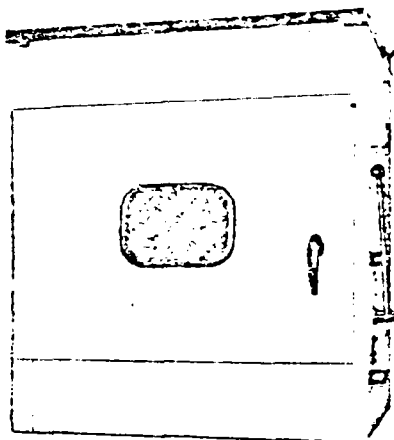
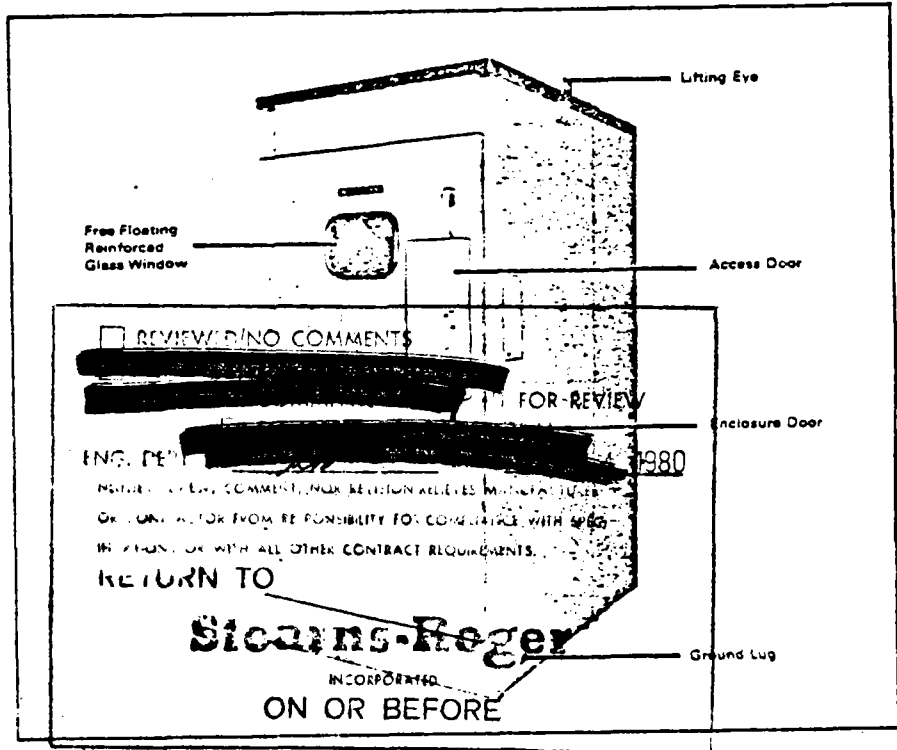
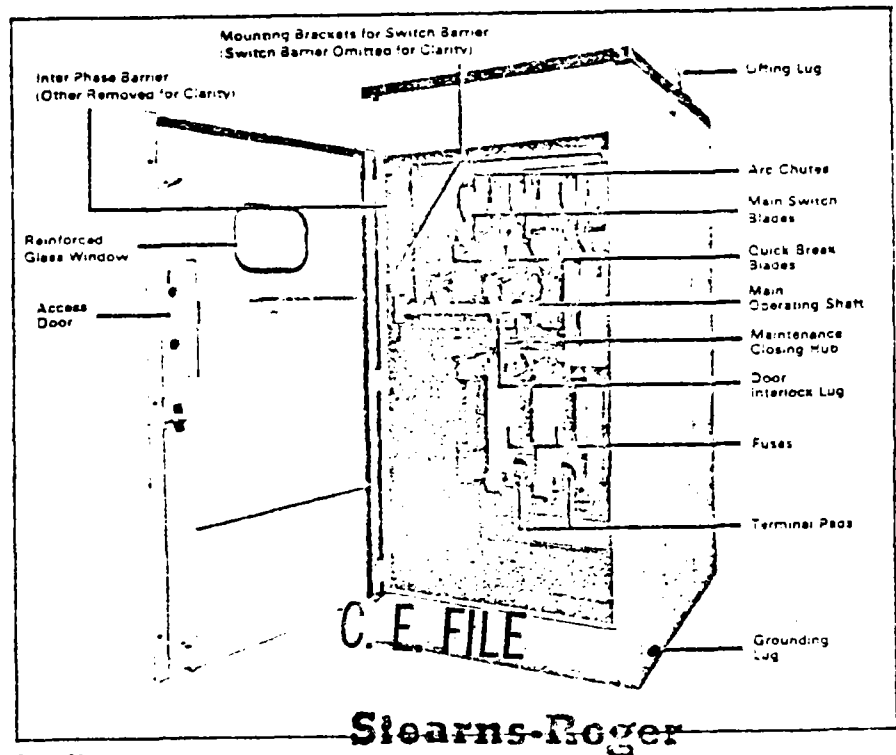

Figure 19A
Figure 20
Figure 21
Enclosures for the type AWP switch are available for side operated, wall mounted, unfused units, Figure 19A, as well as the fused units which can be side or front operated, 5 kV through 15 kV. These enclosures are made of 11 gauge steel and are of bolted construction, Figure 20. All steel used in the enclosure is cleaned and phosphatized in preparation for painting. The paint used in standard production is light gray ANSI-61 for indoor applications and ANSI-70 for outdoor applications.
Each enclosure door contains a window through which the switch unit can be observed. The window is tempered reinforced glass which meets all applicable standards and is free floating in a rubber molding. (See Figure 20). The door of each enclosure is mounted on three (3) hinges and latches at three (3) points with two (2) handles. Figure 21.
Each enclosure door of the front operated unit is equipped with an access door through which the switch may be operated. Figure 20. Each enclosure door is equipped with a door interlock which prevents opening the enclosure door when the switch contacts are closed. Figure 21 and utilizes the open door interlock as described on page 6 under door interlock features.
AWP Switches 5.0 kV to 15.0 kV can be obtained in weatherproof and dust tight enclosures. The standard outdoor enclosure is supplied with a conduit adapter but roof bushings are available. Other equipment which can be mounted in the enclosure includes auxiliary switches and potheads. All enclosures are furnished with grounding lugs. Figure 21